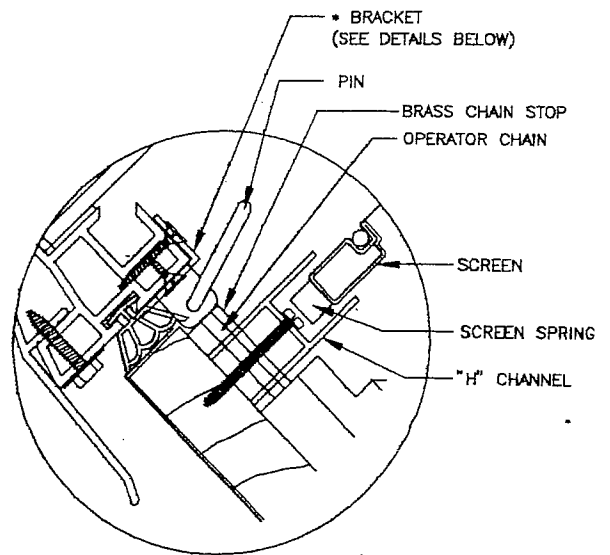

FIGURE 3
8. Install the bracket as shown in figure 3. *Note: Choose the correct installation for a skylight or roof window. Line up bracket with operator chain and secure with screws (#8 x 1 1/4" phillip flat head and #6 x 3/8" phillip flat head) provided. Crank chain up approximately 5" and attach chain to bracket with pin provided.